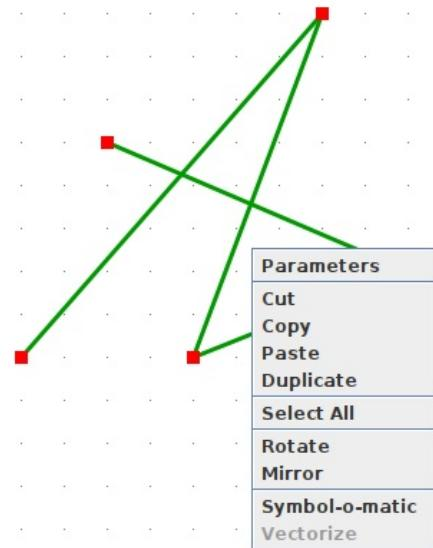

Figure 2.24: The pop-up menu appearing with a right click allows to transform drawing elements into a symbol
- Select what you just drawn and right click on it. A popup menu appears, such as in figure 2.24.